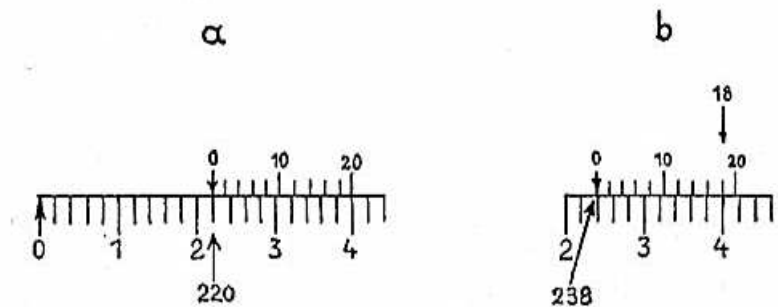

Fig. 33
- a) The scale ring number “0904” on the left scale disk (1) (which is the angle of the aiming circle – B.M.G. – target, see Fig. 33).
- b) The distance “2,000 m” (to be exact, “2,005 m” on the left distance ruler (2) (which is the shooting distance of the B.M.G. – target, see Fig. 33).
- b) Offset from target 1 to target 2 = 80° less (see also Fig. 33).